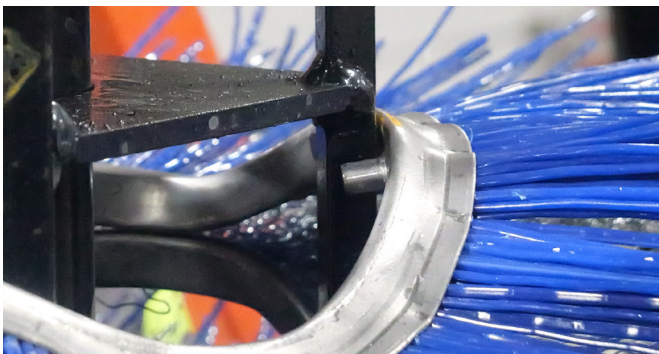

Figure 7
2. Install a new wafer by make sure the two (2) pins hug on of the drum's bar. See Figure 7.